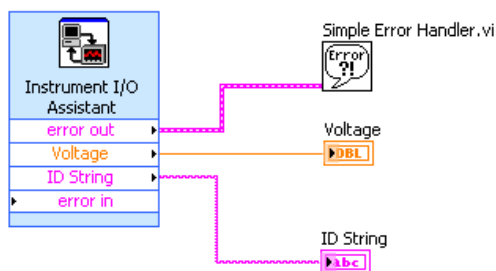

Figure 11.5
1. Display and build the block diagram shown in Figure 11.5.